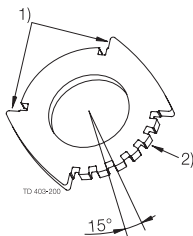

Fig. 5. Positioning cap.
- L. Lockable Multiposition Handle. Padlock can be mounted as shown in fig. 5.